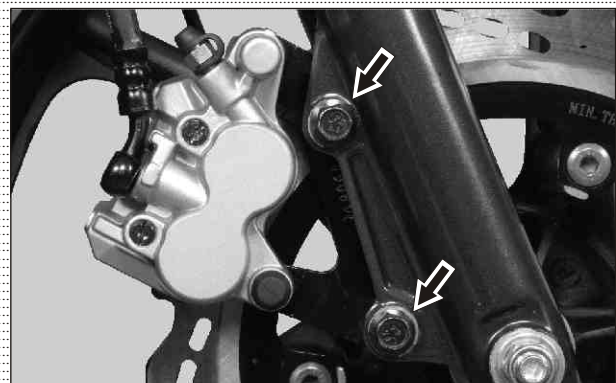

Fig. 6.14
- Remove caliper assembly mounting bolts and take out the caliper assembly. (Fig. 6.14)